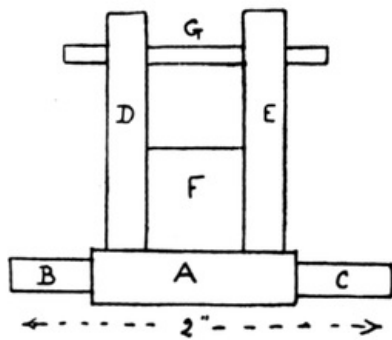
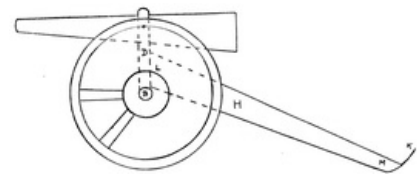

FIG. 340
FIG. 341
**A Modern Breech-loading Field Gun** (Fig. 341). This is a simple toy to make. A piece of stripwood, A,  $\frac{1}{4}$ "  $\times$   $\frac{1}{4}$ "  $\times$  2", must first be cut, and the ends, B and C, rounded for about  $\frac{1}{2}$  inch (Fig. 340). Next two pieces of stripwood, D and E,  $\frac{1}{4}$ "  $\times$   $\frac{1}{4}$ "  $\times$   $1\frac{1}{4}$ ", are cut. These must have their tops rounded as in Fig. 341, and have holes drilled through them to receive a rounded match, G. F is a piece of wood  $\frac{1}{2}$ "  $\times$   $\frac{1}{4}$ "  $\times$   $\frac{5}{8}$ ". Pieces F, D and E are glued or nailed to A. Before the pivot G is put in position the cannon must be made. This is a roll of black paper,  $3\frac{3}{4}$  inches long,  $\frac{1}{2}$  inch in diameter at widest end, and  $\frac{1}{4}$  inch at the narrowest. Holes are made through it to receive the pivot. The ends of the match sticks that project beyond D and E can be cut off. Next the wheels are cut. These may
A piece of wood, H, is next cut, 1/2" x 1/2" x 4 1/2", and worked to the shape shown in Fig. 341. The end L must be sawn at an angle, so that when H is glued on, D is perpendicular. The end L is glued to the piece of wood, F. K is a piece of cardboard with a hole through it for pulling the cannon along; it is glued to end M.